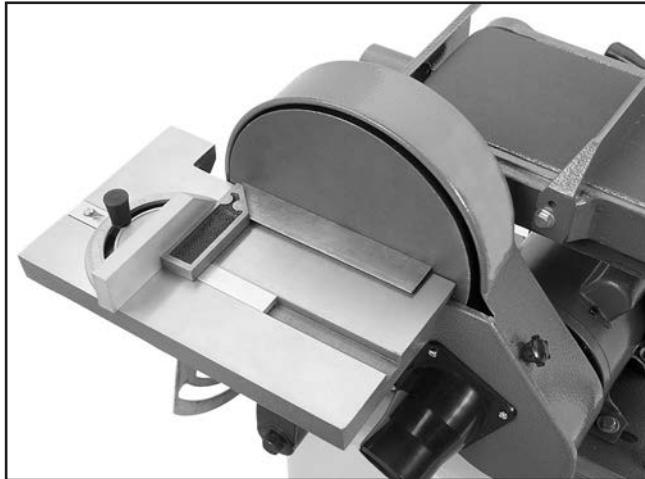

Figure 42. Calibrating miter gauge with square.
1. Place one edge of a machinist's square against the face of the miter gauge and the other against the sanding disc (see **Figure 42**) or sanding belt.